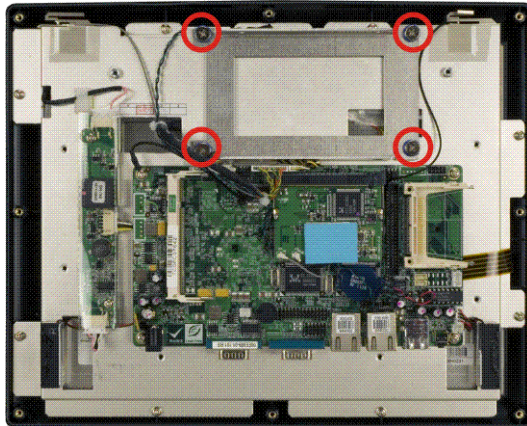

Figure 3-7: AFL-12A-LX HDD Bracket Retention Screws
Step 6: Remove the four HDD bracket retention screws (**Figure 3-7**) and lift the HDD bracket off the panel PC.